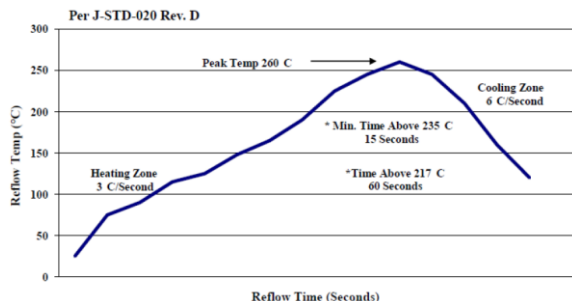

**Figure 24. Column Pin Connector Before and After Reflow Soldering .**
The surface mountable modules in the family use our newest SMT technology called “Column Pin” (CP) connectors. Figure 24 shows the new CP connector before and after reflow soldering onto the end-board assembly.